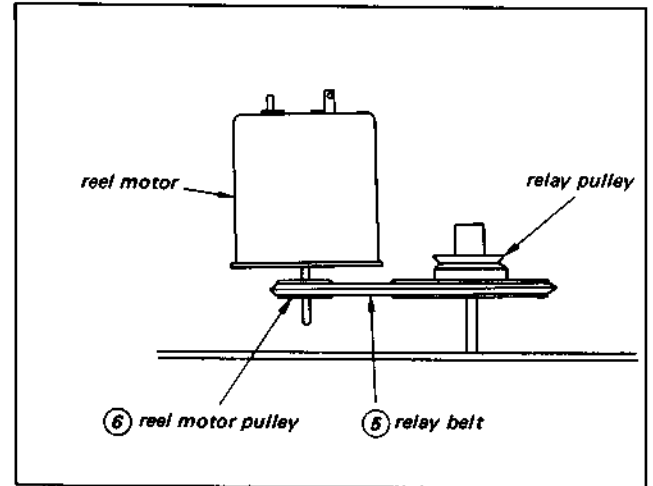

Fig. 3-32. Reel motor replacement (4)
**Note:** Confirm that the relay belt ⑤ does not separate from the motor pulley ⑥. (See Fig. 3-32)